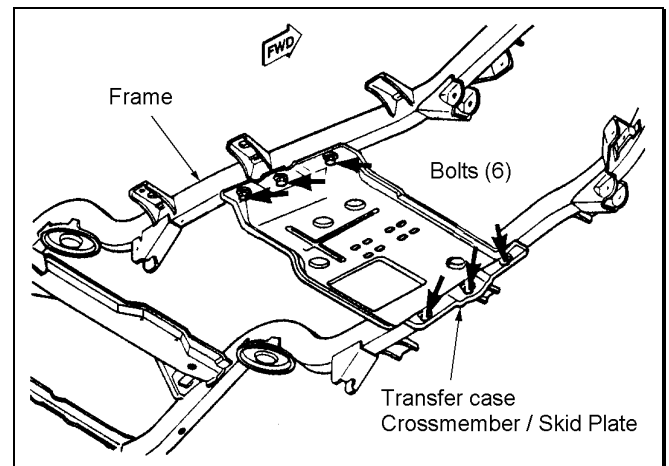

Figure 17
- 1) ☒ Place the transmission in neutral. Support the transfer case crossmember/skid plate with a hydraulic jack. Loosen the 6 bolts holding the crossmember to the frame. See figure 17.